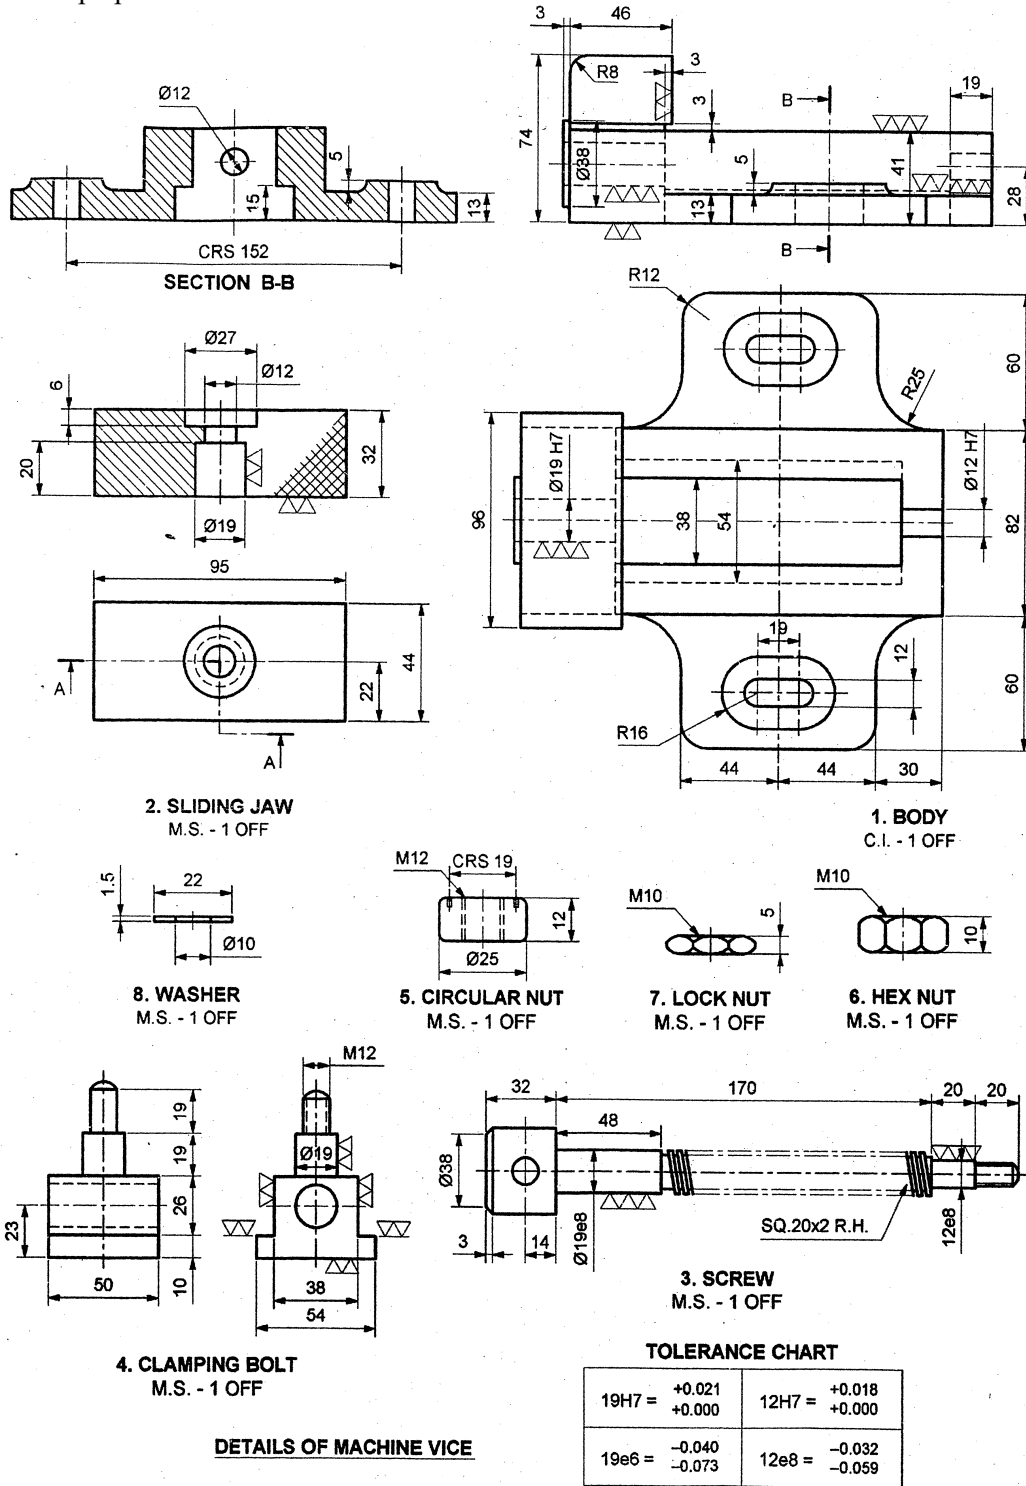

Fig. 3
a) Fig. 3 shows the details of machine vice. Draw sectional F. V. and T. V. of an assembly. Also prepare bill of material.